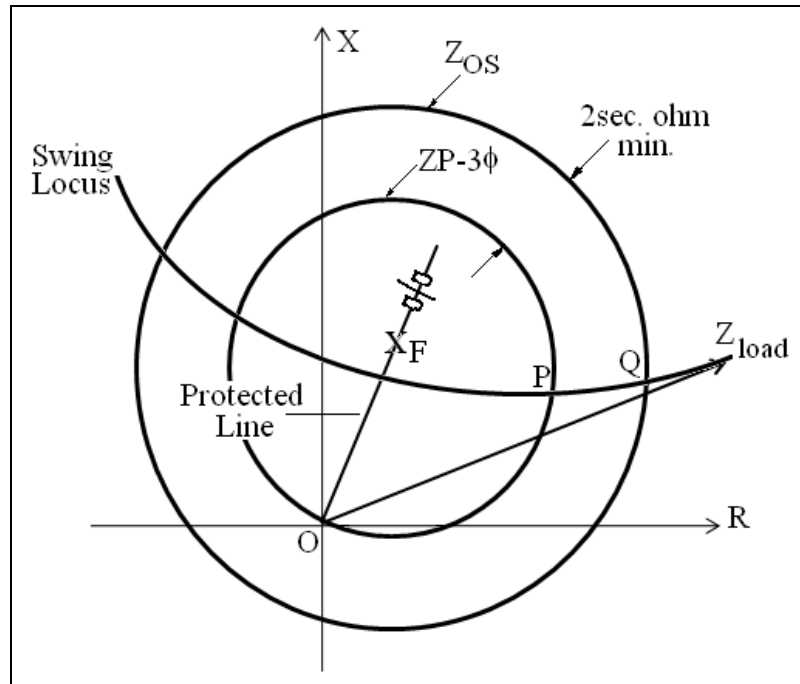
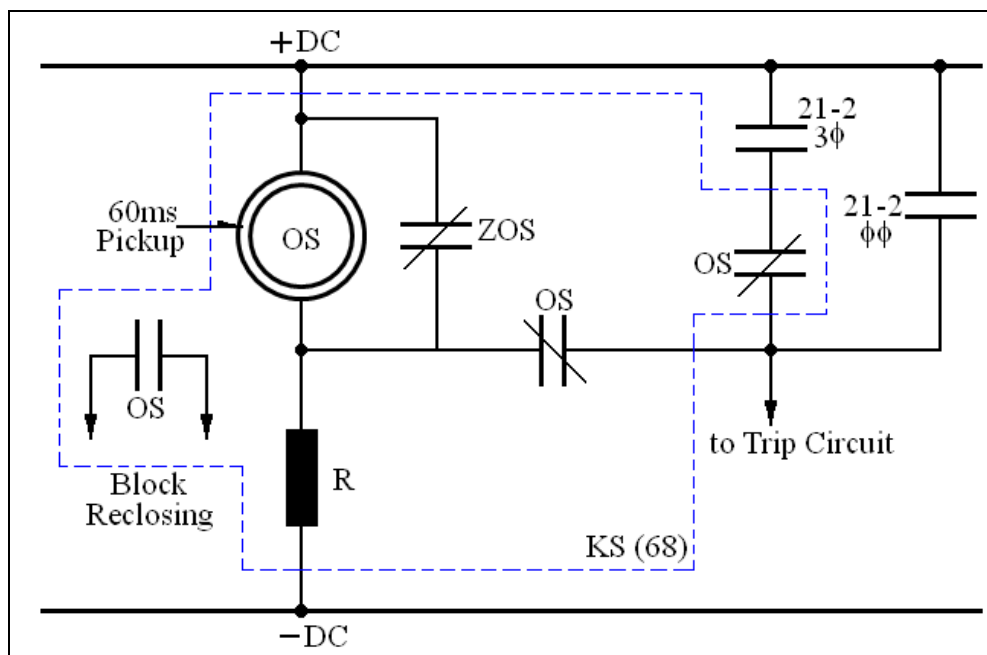

Fig. 2.3-2 Out-of-Step Relay Characteristic on R-X Diagram
Fig. 2.3-3 Out-of-Step Blocking Circuit Operations
KS relay distance unit, ( $Z_{os}$ ), is set to include the ZP-3 $\phi$  [21-2(3 $\phi$ )] unit R-X diagram circle, as shown in Fig. 2.3-2. A minimum separation of two ohms is recommended between the ( $Z_{os}$ ) and ZP-3 $\phi$  [21-2(3 $\phi$ )] unit circles. This separation provides the means for distinguishing between 3-phase faults and out-of-step conditions. When a fault occurs on the protected line, the impedance seen by the relays changes suddenly from the pre-fault value, ( $Z_{Load}$ ), to the fault value, represented by the line (O-F).
During an Out-Of-Step condition the contact (**ZOS**) in Fig. 2.3-3 opens before ZP-3 $\phi$  (21-3 $\phi$ ) contact closes. unit (**OS**) is energized and, after 4 cycles, (**OS**) contact opens the ZP-3 $\phi$  (21-3 $\phi$ ) trip circuit. All this occurs before the swing reaches point P in Fig. 2.3-2.
Referring to Fig. 2.3-2. The impedance circle of the relay is set to encircle the second zone KD relay three-phase unit. The difference between the two circles provides a margin on ohms sufficient to give the telephone-type relay time to operate before the swing condition enters the characteristic of zone after having entered the circle of the KS relay. The telephone-type relay will open within 3 to 4 cycles. Thus all of the (OS) contacts operate to block tripping, and also to prevent the short-circuiting and de-energizing the (OS) coil as the zone 2 contacts close. When zone 2 operates before OS, as it does for a three-phase fault condition, a short-circuit across the coil OS is completed through the KD relay, and (OS) is not energized even through the ( $Z_{Os}$ ) contacts do open.